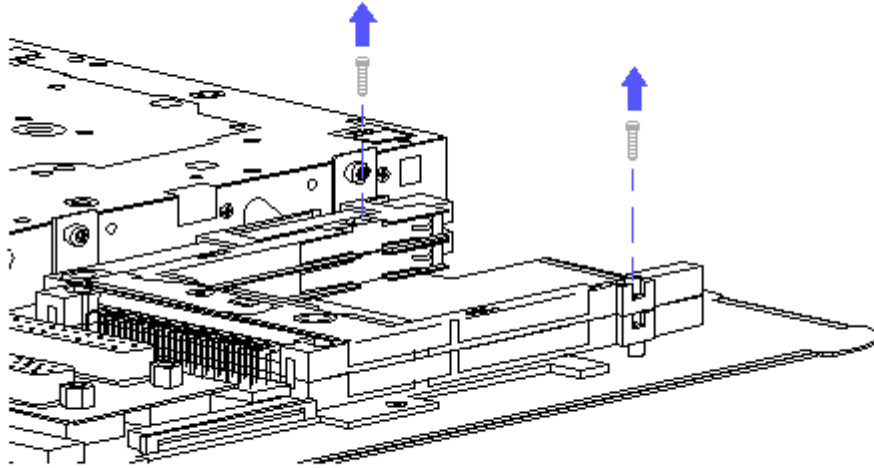

Figure 3-60. Removing the Ejector Rail Mounting Screws
4. Remove the two screws holding the rails in place (Figure 3-60).
3. Install the two mounting screws (Figure 3-60).